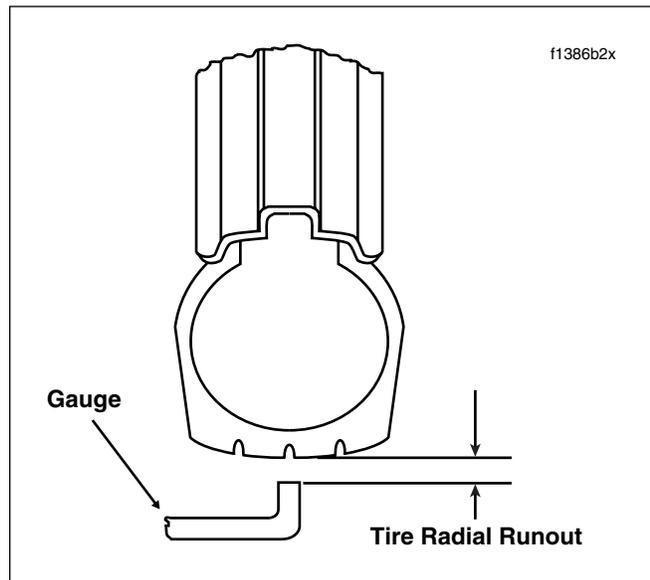

Figure 2-35. Checking Tire Radial Runout
- Check runout by turning wheel on axle, measuring amount of radial displacement from a fixed point near the tire. See Figure 2-35.